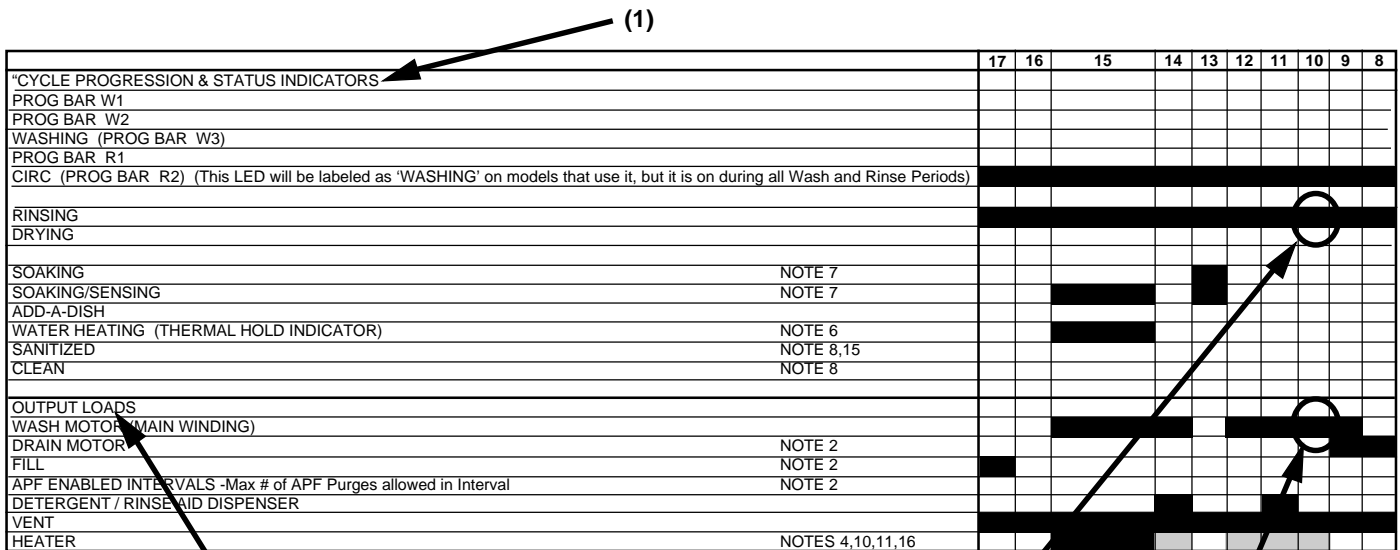

Fig. 4-4
With this information in hand, the illumination of status indicators and the operation of functional components can be verified by looking at the Cycle Progression and Status Indicators (1) and Output Loads (2) portion of the chart. (Example: In Interval 10 (Final Rinse) the wash motor interval (Output Loads) is shaded and the Rinse Indicator (Status Indicators) is shaded. This means that the wash motor should be running and the Rinse LED on the control panel should be lit. (Fig. 4-4)